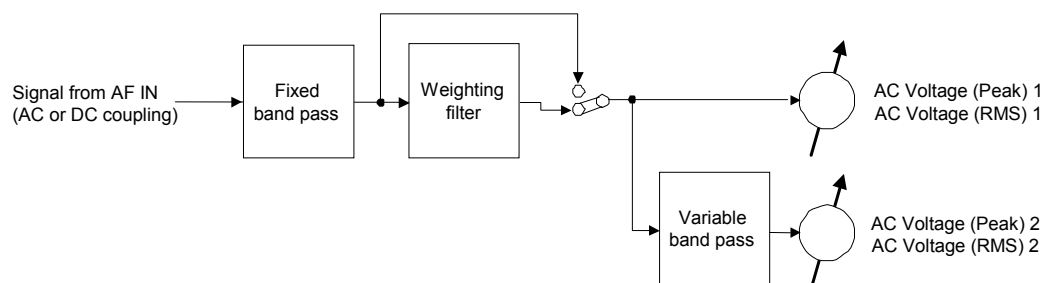

Fig. 4-33 AF analyzer input path configuration
Peak value of the AC component of the measured AF signal in V. The numbers 1 and 2 denote two different input paths for AF signals with different filter configuration; see Fig. 4-33 on p. 4.193.
**Bandpass** The *Bandpass* section sets the bandwidth of the fixed band pass (see Fig. 4-33 above).
**Weighting** The *Weighting* section selects a weighting filter to be switched into the AF signal path after the fixed band pass (see Fig. 4-33 above).
**Note:** *The variable band pass settings affect the results for AC Voltage (Peak) 2 and AC Voltage (RMS) 2 only (see Fig. 4-33 above). These quantities are available in remote control but not displayed in the Analyzer/Generator menu.*